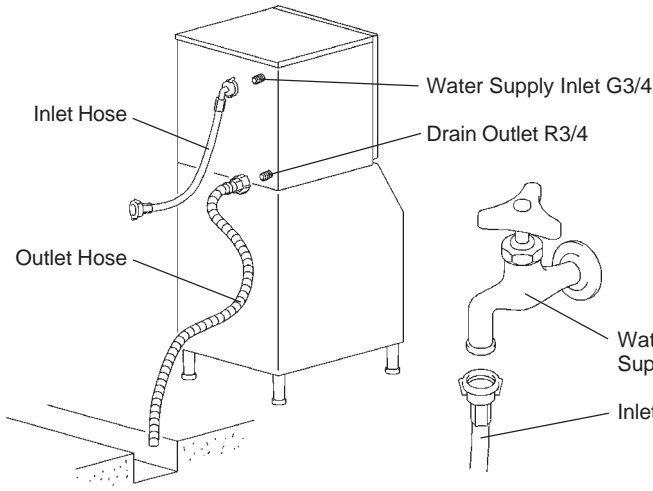

Fig. 7
- 1) Attach the angled end of white flexible inlet hose (accessory) to the G3/4 fitting on the left side of the icemaker as indicated, ensuring rubber sealing washer is correctly positioned. Hand tighten sufficiently to provide leak free joint (Fig. 7).